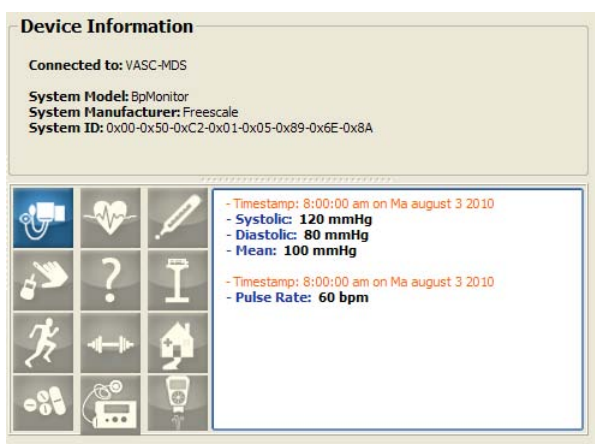

Figure 24. Blood Pressure Monitor Measurement Values
11. Use SW3 in application mode on the Agent board to send simulated sensor measurements from the agent to the manager. Notice how the values are received and displayed in the Continua Manager GUI as shown in Figure 24.